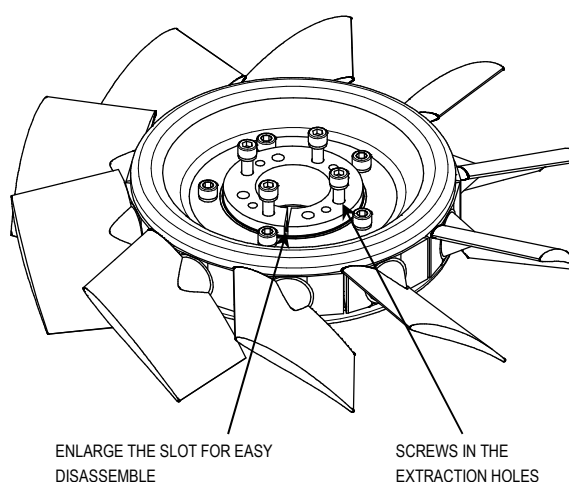

Fig. 9.8
- Remove the 4 screws that keep the locking collar in place (Fig. 9.8).